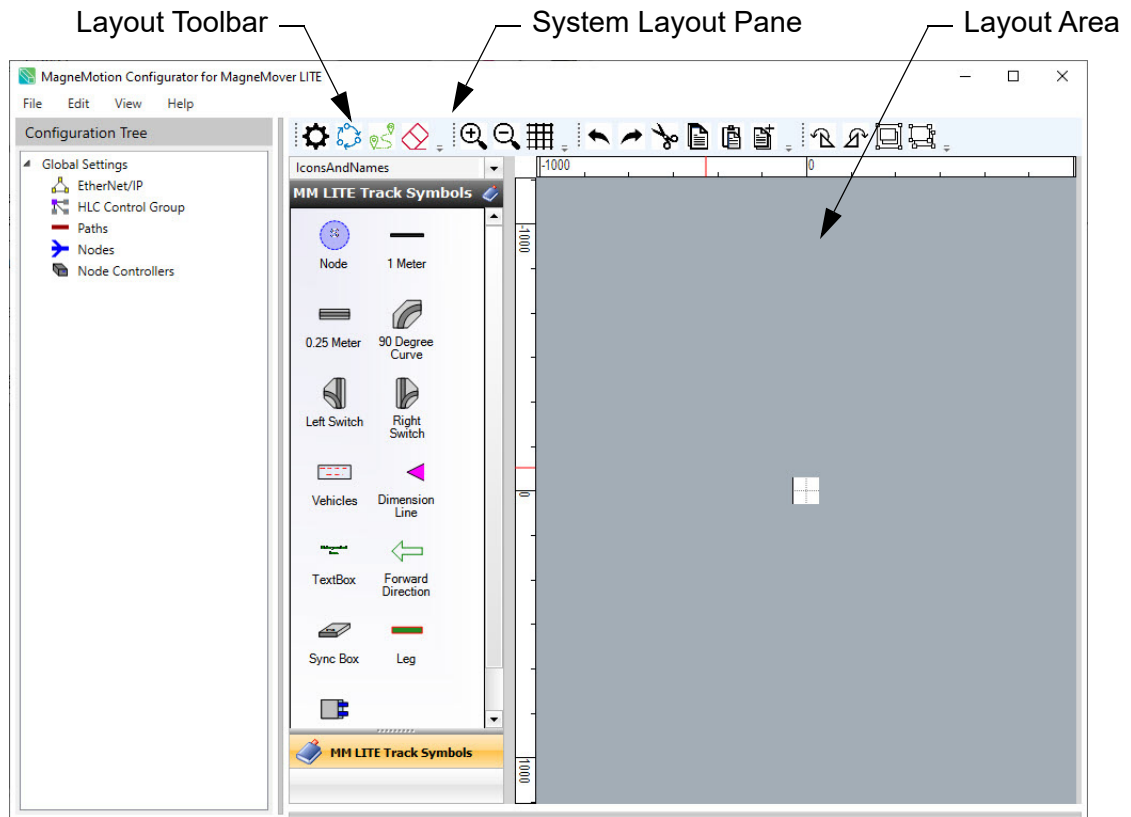
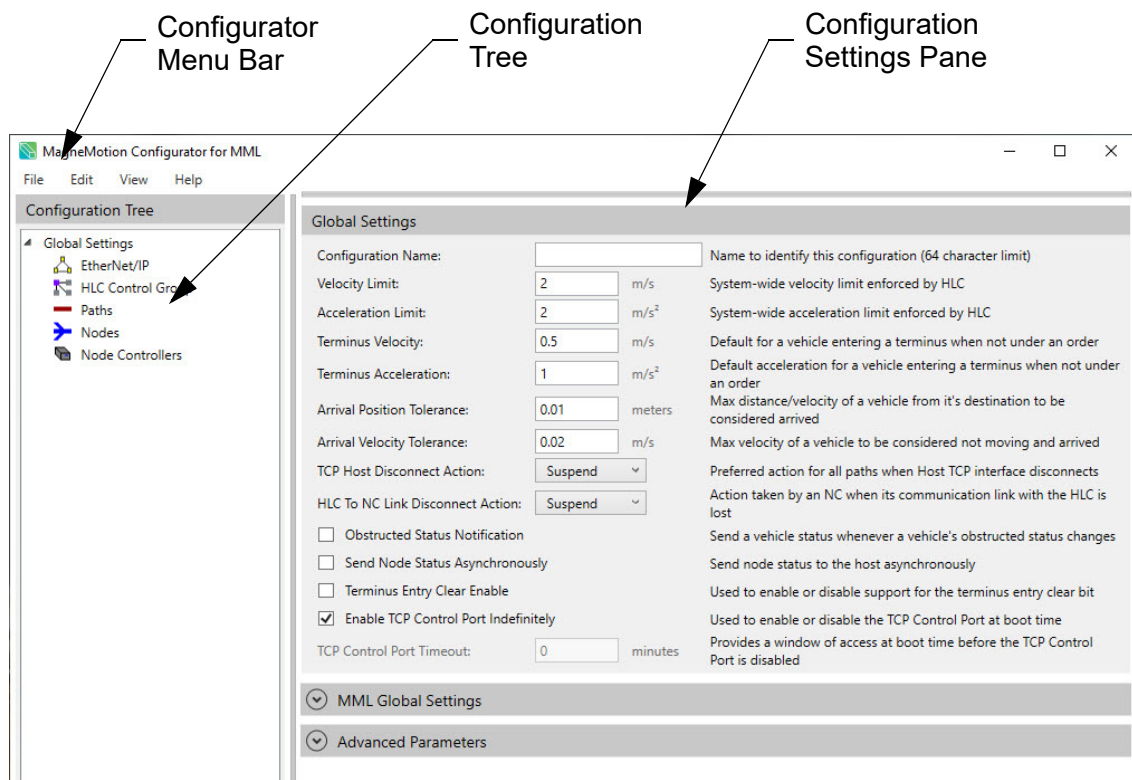

Figure 2-9: System Layout Pane Expanded
Figure 2-10: Configuration Settings Pane Expanded
3. Move the bars that separate the panes in the window to access either the **System Layout Pane** or the **Configuration Settings Pane**, see Figure 2-9 and Figure 2-10. Use the scroll bars to see the text in the panes, or resize the window as necessary.